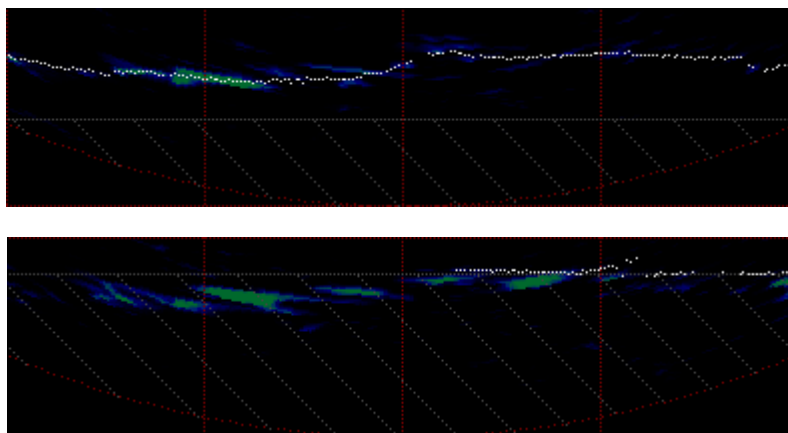

Figure 32: Example of Maximum Profile Depth Adjustment
**Figure 32** shows the effects of maximum profile depth. In the top image, the maximum profile depth is set to a point beyond the bottom return. Thus, profile points are generated on the bottom. In the bottom image, the maximum profile depth is set to a point just at the bottom return. Thus, profile points are generated only on the part of the bottom that is less than the maximum depth setting.